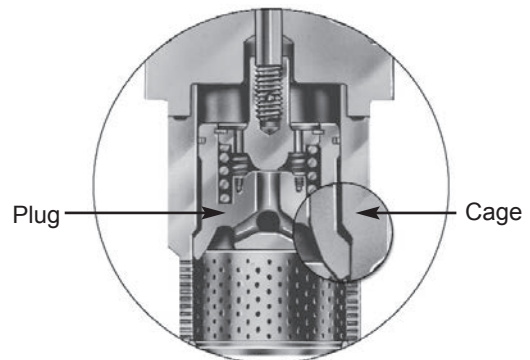
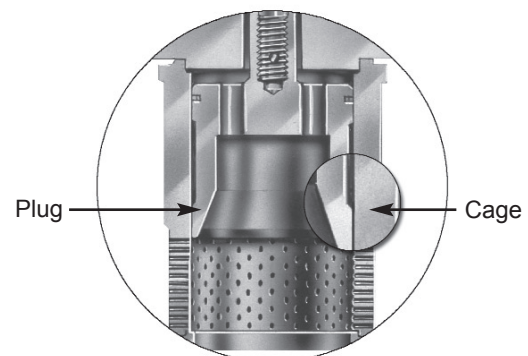

Figure 2 - Bell-Shaped Plug Design
Figure 3 - Straight Plug Design
8. Lift the bonnet (2) and remove from the valve body (1). During this operation, the valve plug stem (7) must be pushed downward to ensure the valve plug (8) remains inside the valve body (1).
9. Remove the body gasket (25) from the groove on top of the valve body (1).
10. If applicable, remove the conical spring (14) from the groove on top of the valve cage. Some designs for high temperature service may include a conical spring.
11. Remove the valve plug assembly (8) from the valve cage by pulling the valve plug stem (7) upward. In the case of the bell-shaped plug design (see Figure 2), pulling the plug stem (7) will remove both the plug (8) and cage (10) or (if applicable) cage retainer (11) together. For straight plug designs (see Figure 3), after removal of the plug (8) lift the cage (10), and (if applicable) the cage retainer (11) to remove from the valve body (1).
Note: For straight plug designs, as shown in Figure 3, care must be taken to ensure the cage is not lifted out during removal of the plug.